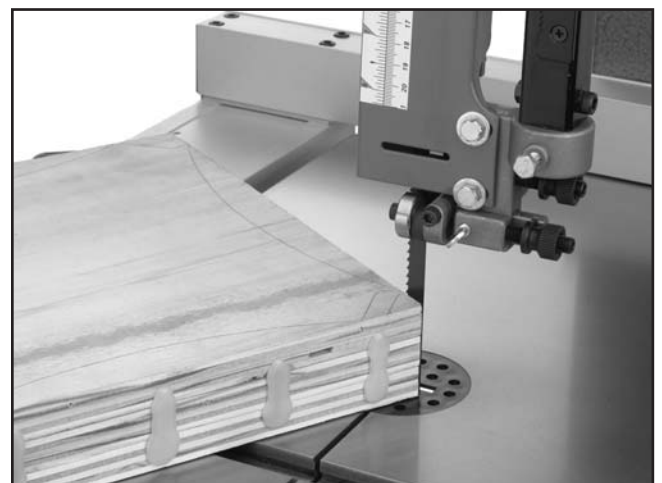

Figure 43. Typical stacked cut.
5. Cut the stack of pieces as though you were cutting a single piece. Follow your layout line with the blade kerf on the waste side of your line as shown in **Figure 43**.